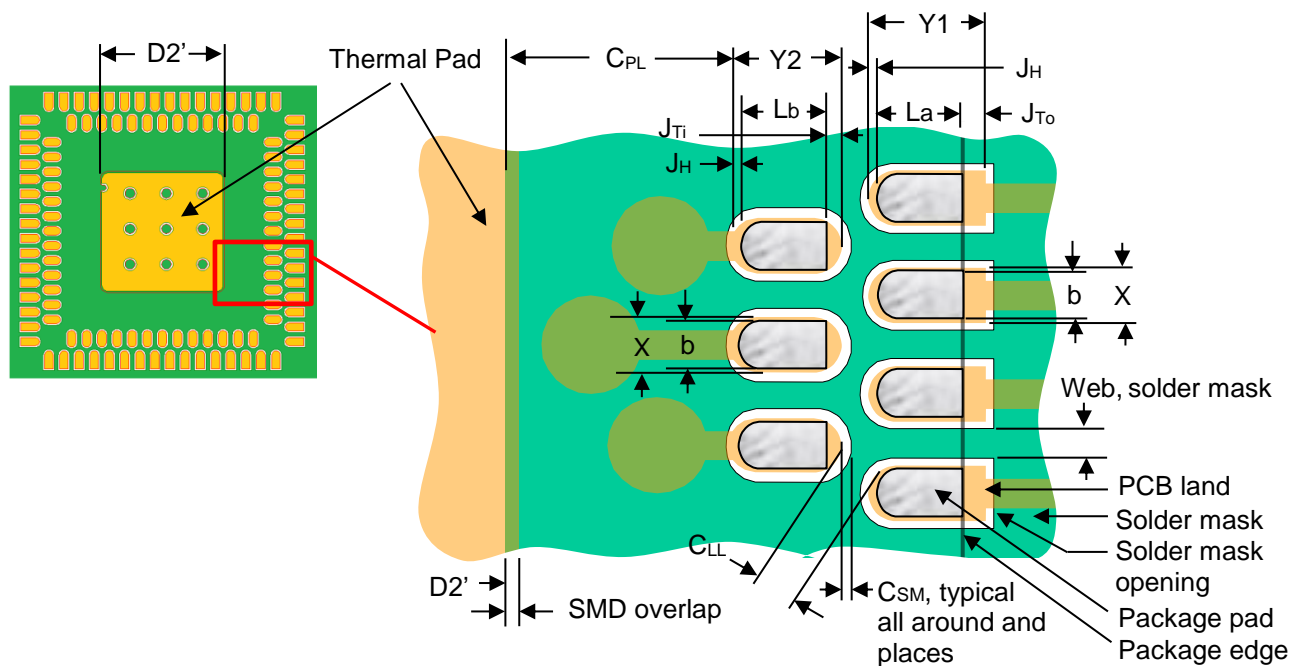

Figure 5. Land Pattern Design for DRMLF®
- Table 1 lists few important factors to consider for designing the land pads. Table 2 is summary of recommended land pad sizes for few Amkor's DRMLF® packages. Figure 5 depicts a generic land pad layout for DRMLF.